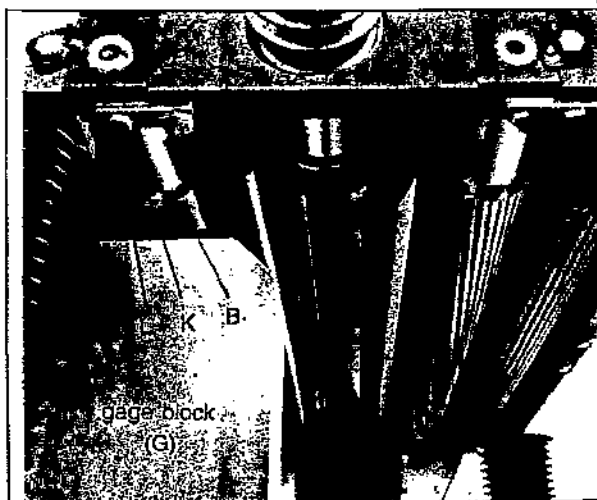

Fig. 32
4. Move the gage block (G) under one end of the outfeed roller (B) as shown in Fig. 32. The bottom of the outfeed roller should just touch the top of the gage block. If an adjustment to the outfeed roller is necessary, loosen the lock nut (K) Fig. 32, and turn screw (L) Fig. 32 until the outfeed roller just touches the gage block. Then tighten lock nut (K) as shown in Fig. 32.